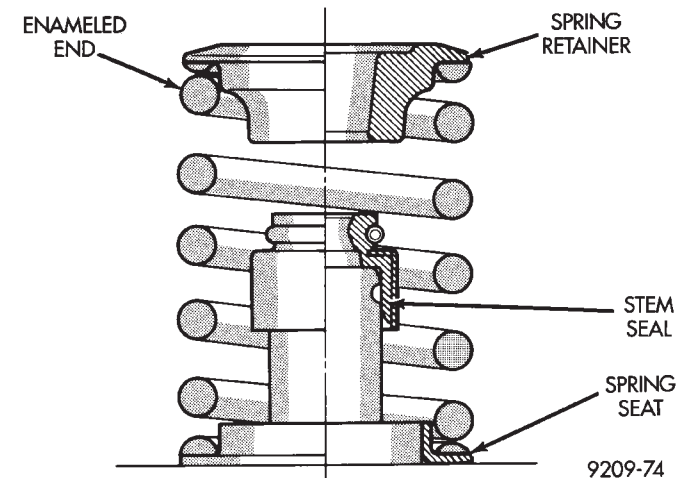

Fig. 48 Valve Spring Position—Installed
(4) Install valve spring with the enamelled ends facing the rocker arms (Fig. 48). Install valve springs and retainers. Compress valve springs only enough to install locks, taking care not to misalign the direction of compression. Nicked valve stems may result from misalignment of the valve spring compressor.